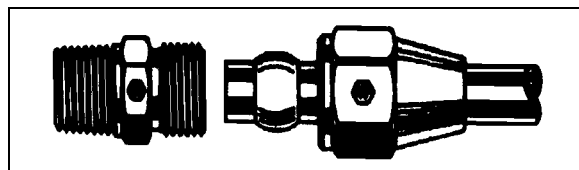

FIGURE 38: HOSE FITTING
**AB-Type Copper Piping:** Hand tighten nut (Fig. 38). From that point, tighten with a wrench the number of turns indicated in the following chart.